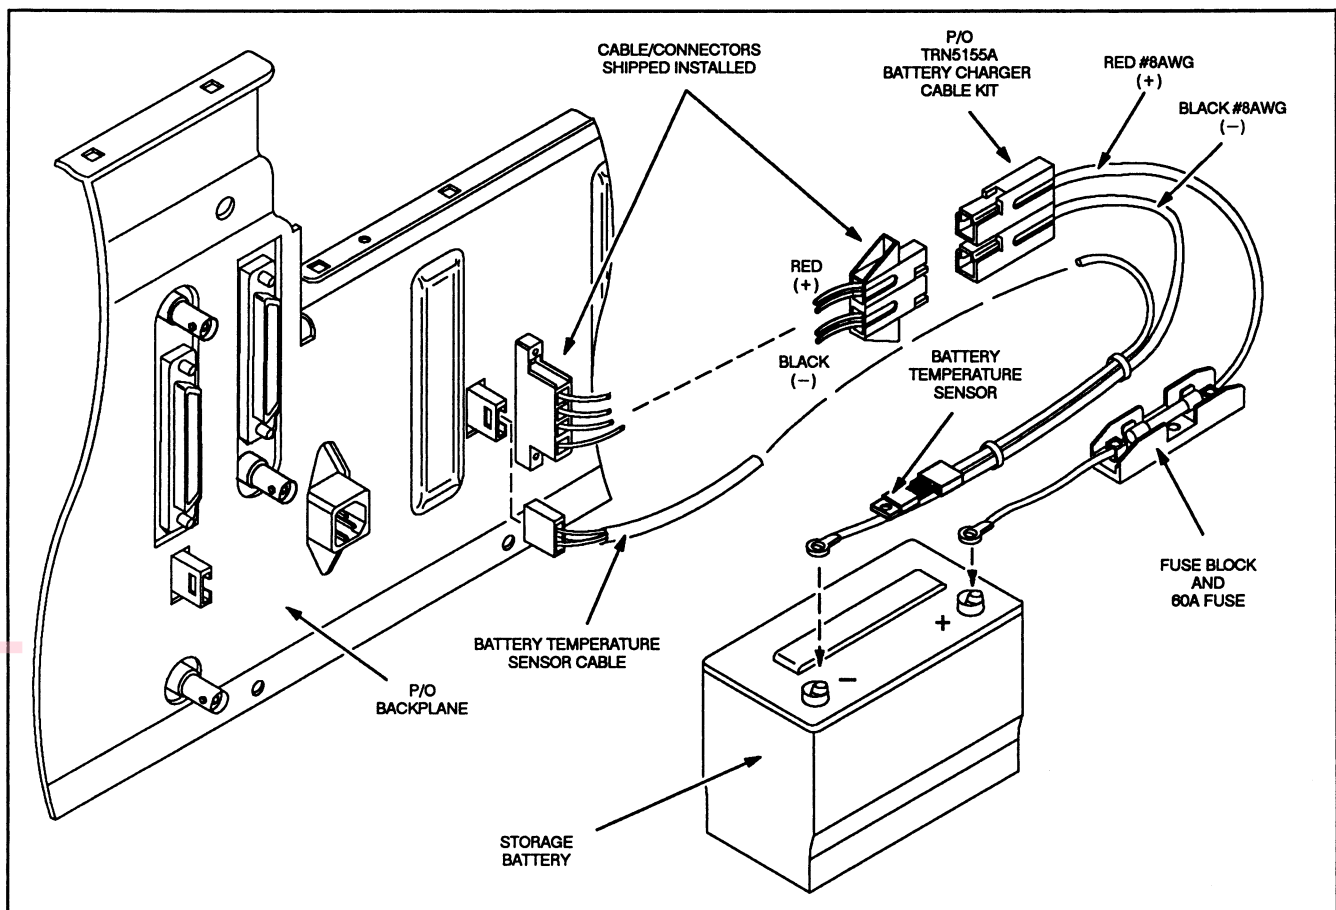

Figure 14. Making Connections to Storage Battery
- **Charger/Revert Cable** — the satellite receiver is shipped with a 4-wire cable terminated in a heavy duty 2-position connector; cable kit TRN5155A (shipped with station) contains mating connector, two 10' lengths of red and black #8 AWG gauge wires, a fuse block and 60A fuse, and crimp-on ring lugs. Make connections to the storage battery as shown in Figure 14.
- **Battery Temperature Cable** — thermistor and cable (TKN8786A) is shipped with charger-style power supply); cable with three wires carries a variable resistance signal from the thermistor which is mounted in close proximity to storage battery; resistance is proportional to battery temperature and is used by diagnostic circuitry in power supply module. Make thermistor connections as shown in Figure 14.